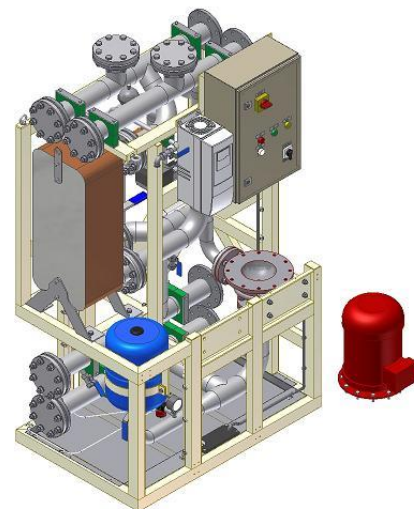

Figure 6.2-1
11. Remove the bolts and nuts from the pump motor flange. Therefore leaving the pump housing in place (Figure 6.2-1).